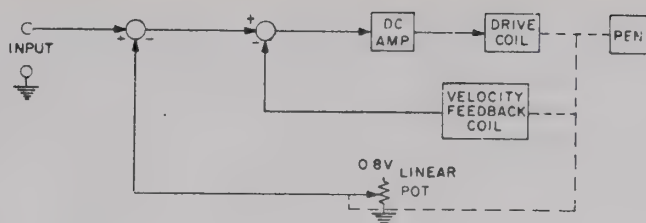

Figure 4.2. Block Diagram of Servo Loop for DC Recording.
4.7 DC RECORDING. Use of the linear potentiometer converts the Type 1521-A into a dc recorder. Figure 4.2 is a block diagram of the recorder servo loop for dc recording. The ac amplifier is bypassed and the input is compared with a dc voltage tapped off a linear potentiometer. The voltage on this potentiometer limits the full-scale sensitivity to 0.8 volt. The input impedance is limited to 1 kilohm owing to the base current of the input transistors. This current changes with temperature, but the change contributes negligible error with a 1000-ohm input impedance. The impedance can be increased if the effects of the current are included in the zero adjustment of the recorder. The input impedance can also be lowered, reducing sensitivity and drift. The low impedance may be more useful for recording current.